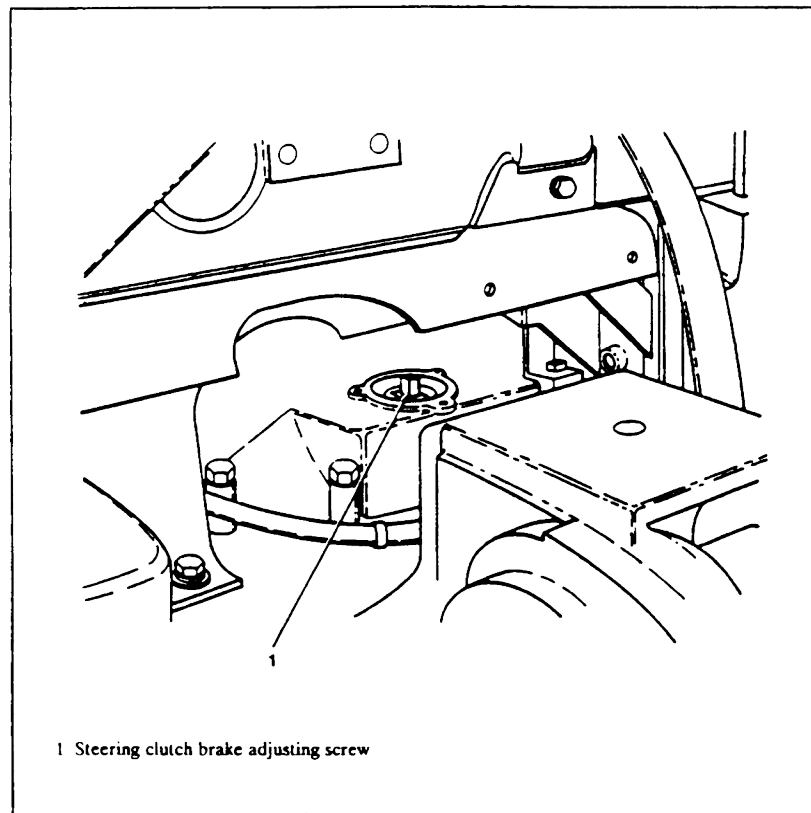

FIGURE 7. STEERING CLUTCH BRAKE ADJUSTING SCREW
Step 2. Check the steering clutch brake adjustment. See Figure 7 and use the following procedures to adjust.